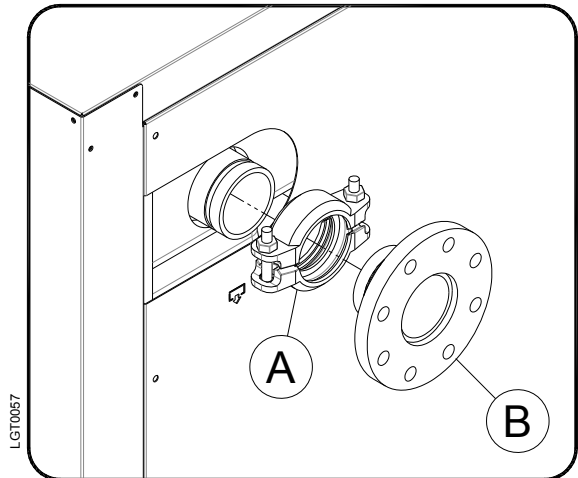

Fig.2
Assembly flange (B) and Victaulic® joint (A) as shown in Fig.2